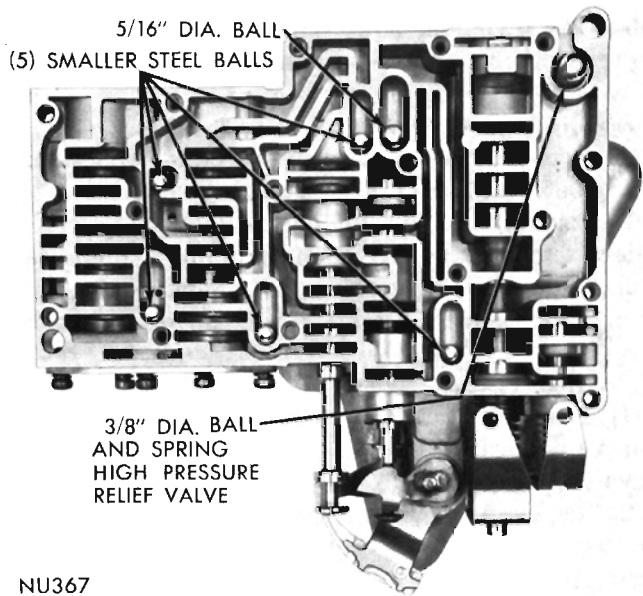
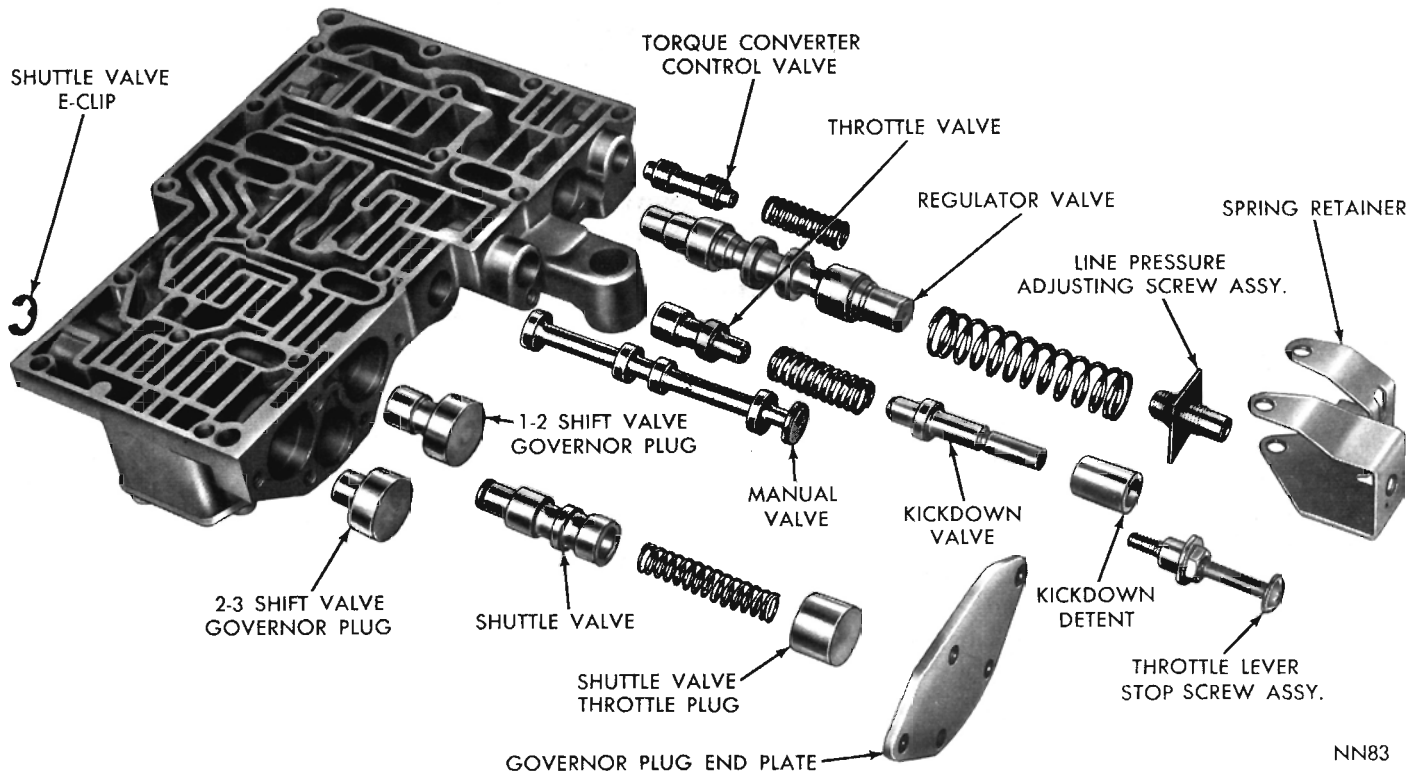
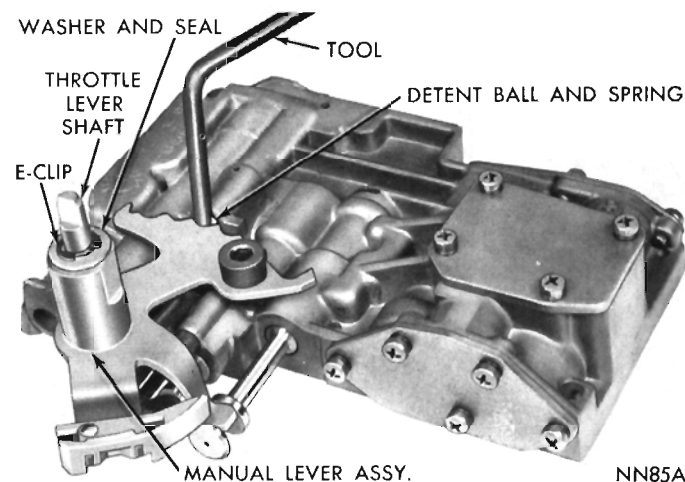

Fig. 52—Steel Ball Location
Fig. 54—Valve Body—Lever Side—Disassembled
Fig. 56—Installing Detent Ball, Spring and Control Levers
(7) Remove and note location of 7 steel balls and 1 spring in valve body (Fig. 52). **CAUTION: Do Not mix up the two larger balls.** The 3/8 inch diameter ball goes on the spring in the corner and is the high pressure relief valve. The 5/16 diameter ball in the large chamber is the front clutch ball check.
- (12) Remove throttle lever stop screw assembly (Fig. 54), be careful not to disturb setting any more than is necessary.
- (13) Remove kickdown detent, kickdown valve,
- throttle valve spring and throttle valve (Fig. 54).
- (14) Remove governor plug end plate (Fig. 54). Tip up valve body to allow shuttle valve throttle plug, spring, shuttle valve, and shift valve governor plugs to slide out into your hand.
(2) Place 1-2 and 2-3 shift valve governor plugs in their respective bores (Fig. 54). Install shuttle valve, spring and shuttle valve throttle plug. Install governor plug end plate and tighten the five retaining screws to 28 inch-pounds.
(3) Install E-clip on end of shuttle valve (Fig. 54). Install shuttle valve cover plate and tighten the four retaining screws to 28 inch-pounds.
(6) Install throttle valve and spring (Fig. 54). Slide kickdown detent on the kickdown valve (counterbore side of detent toward valve), then install assembly in the valve body.
(7) Install throttle lever stop screw (Fig. 54), and tighten lock nut finger tight.
(8) Install manual valve in valve body (Fig. 54).
(9) Install throttle lever and shaft on valve body (Fig. 56). Insert detent spring and ball in its bore in valve body. Depress ball and spring with Tool C-3765 or similar tool and slide manual lever over throttle shaft so that it engages manual valve and detent ball. Install seal, retaining washer and E-clip on throttle shaft.
(10) Position valve body assembly on the repair stand.
(11) Place six steel balls in valve body chambers with large ball in the large chamber (Fig. 52). Install spring and high pressure relief valve ball (3/8" dia.).
(12) Position transfer plate assembly on valve body. Install retaining screws, starting at center and working outward, tighten screws to 35 inch-pounds.
(13) Install torque converter valve and regulator valve (Fig. 54).